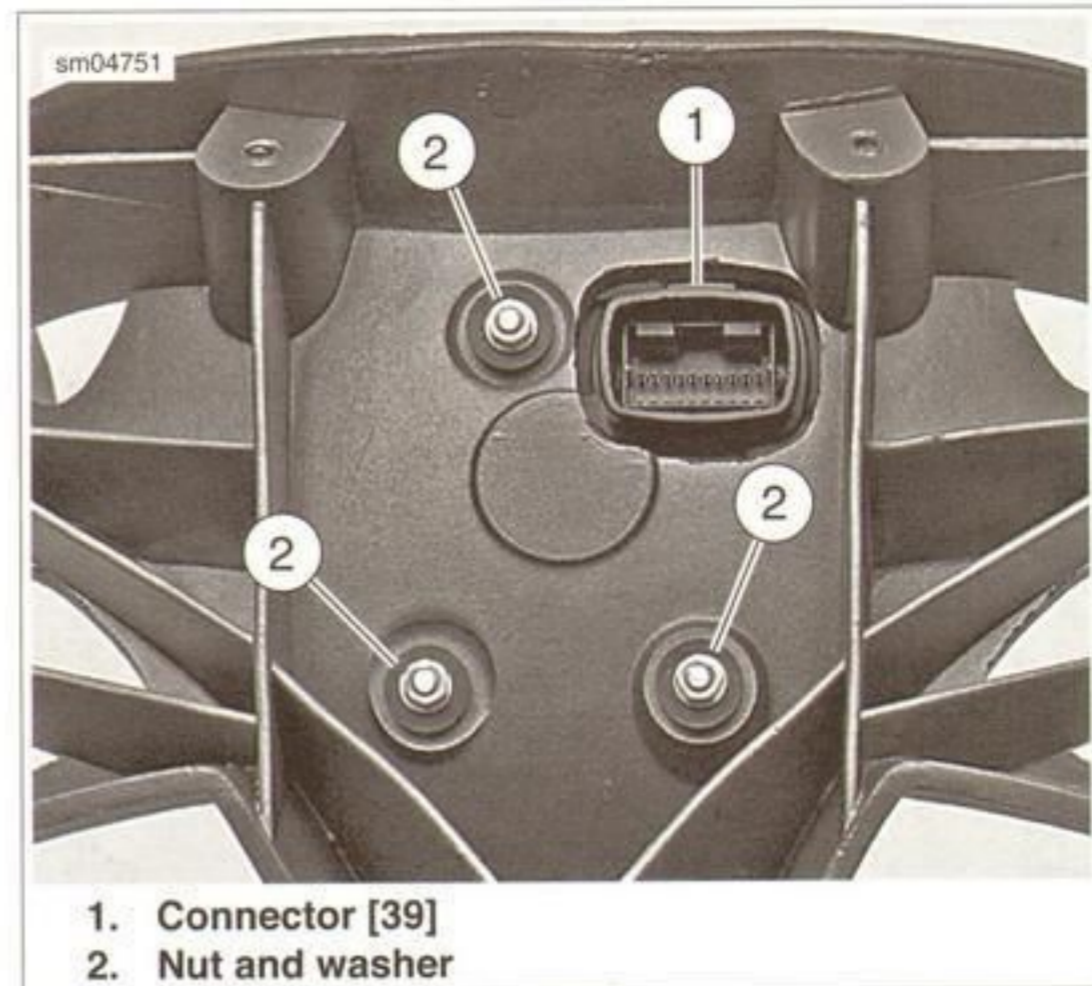
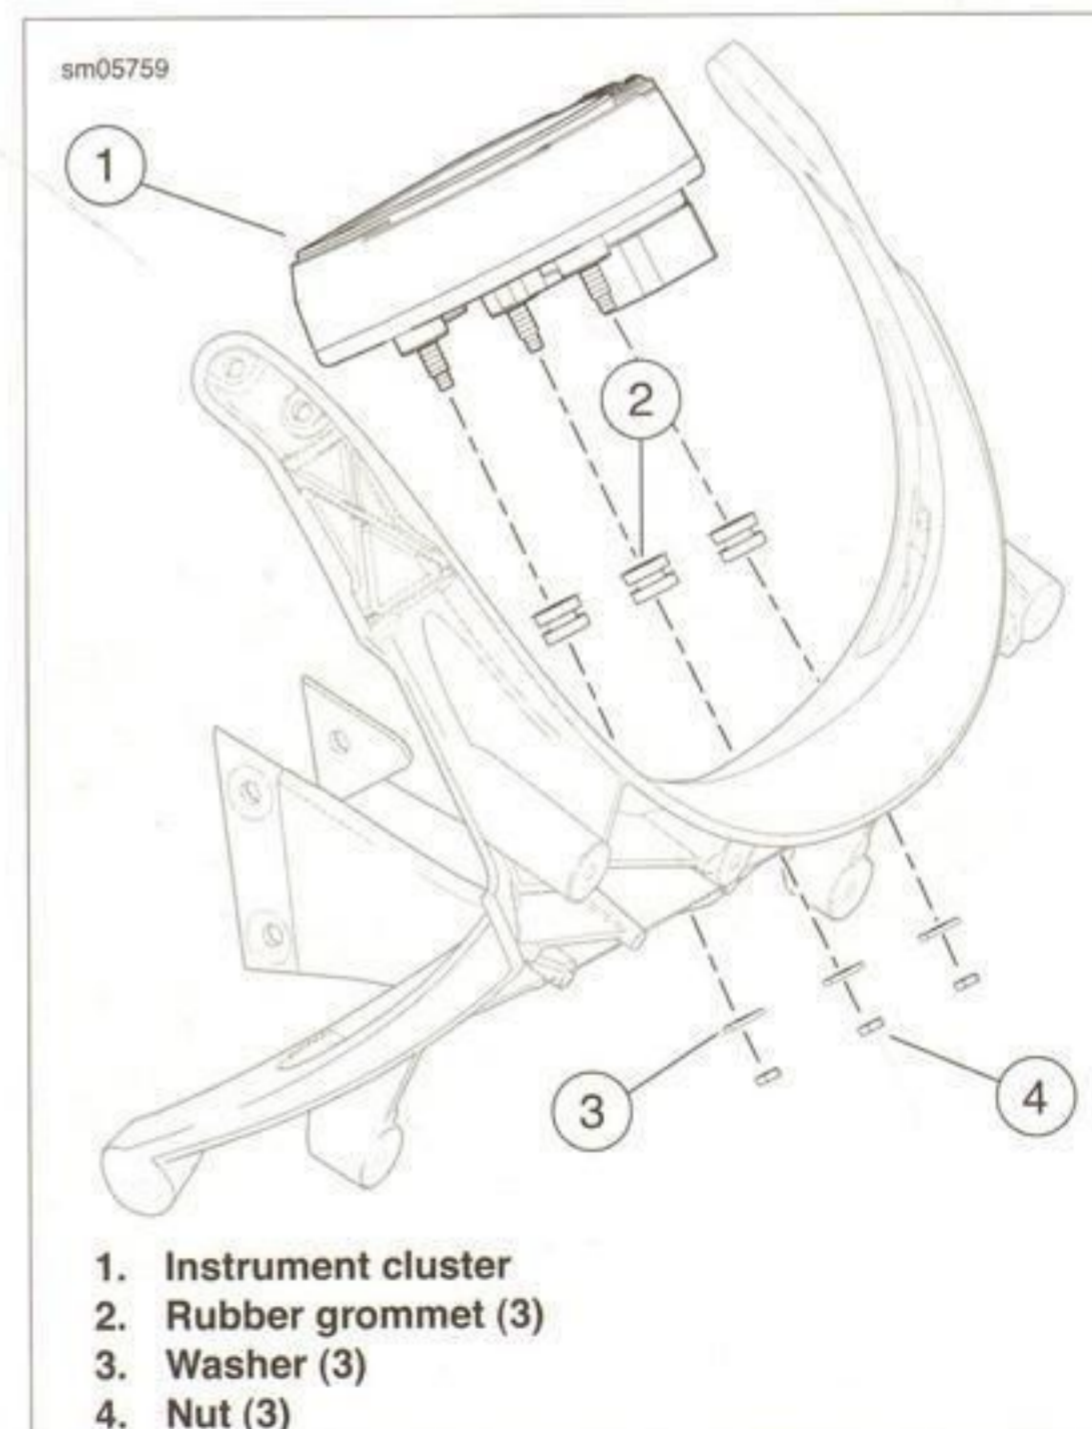

Figure 7-105. Instrument Cluster Mounting
Figure 7-106. Instrument Cluster: 1125R
4. See Figure 7-105. Pull the weather boot from around the instrument cluster connector (1).
6. To remove the unit, remove the three nuts and washers (2) from the front of the fairing bracket.
7. See Figure 7-106. To install the instrument cluster (1), verify that the rubber grommets (2) are in place in the fairing bracket and push the cluster studs through the grommets.
8. Install the washers (3) and nuts (4). Tighten to 1.4-4.1 Nm (12-36 in-lbs).